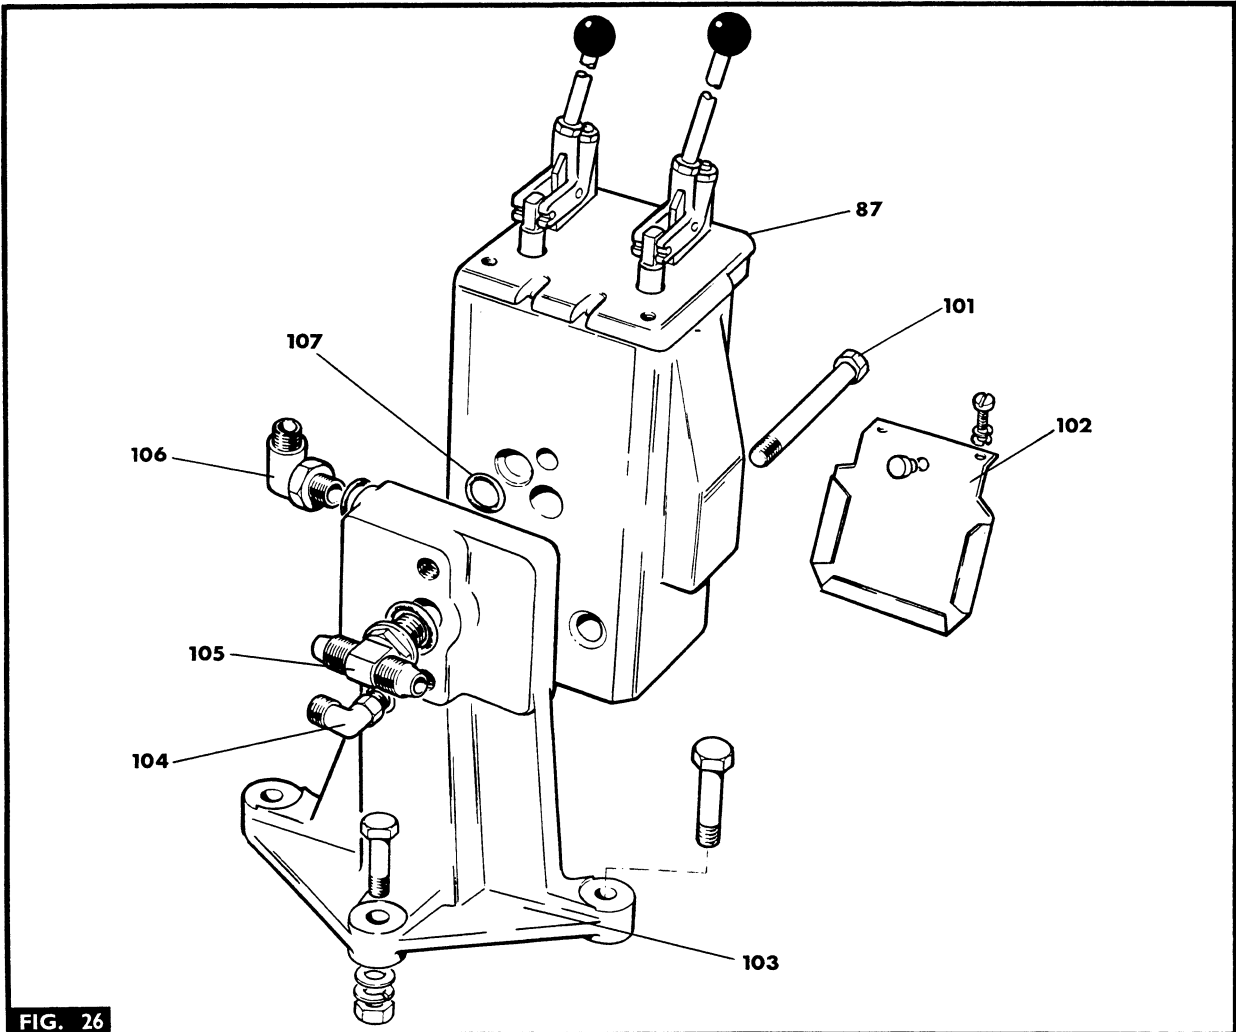
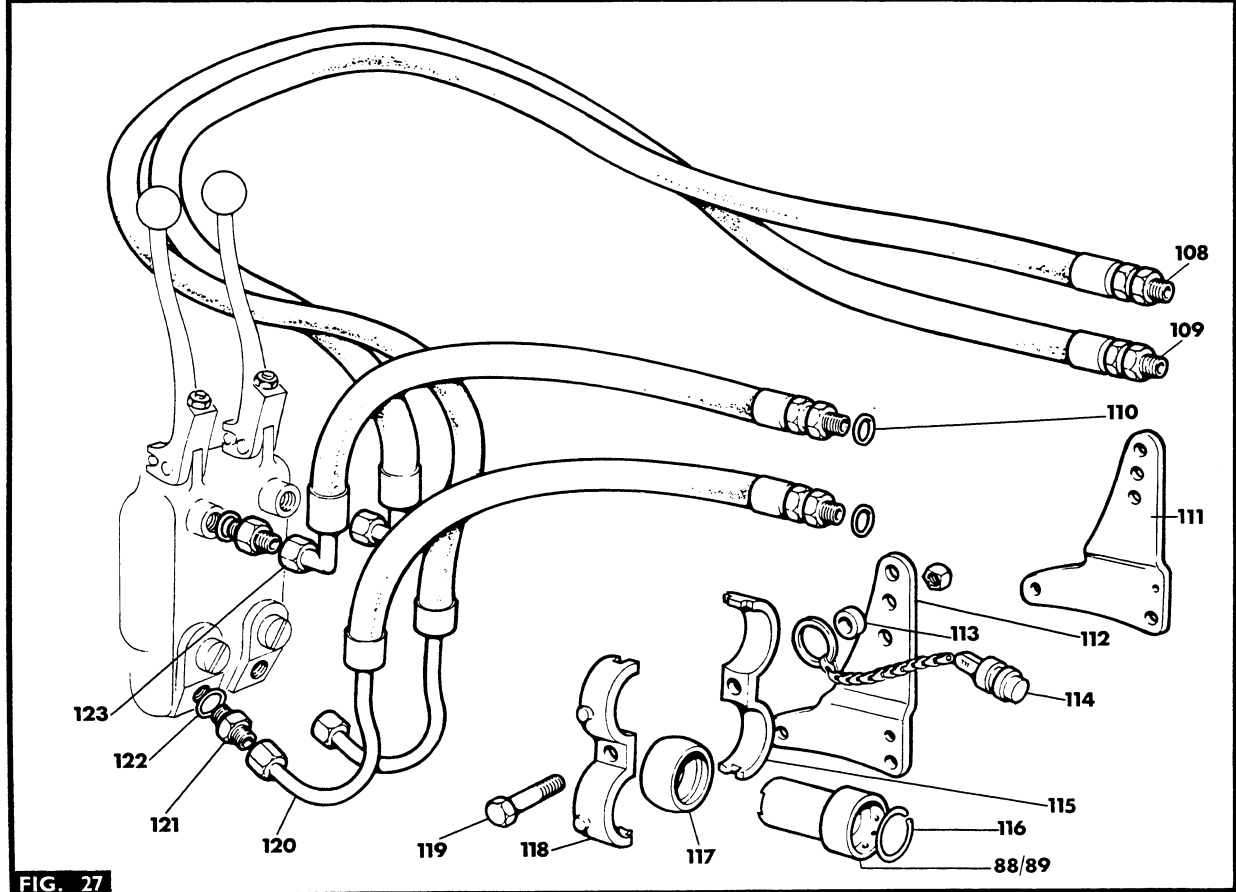
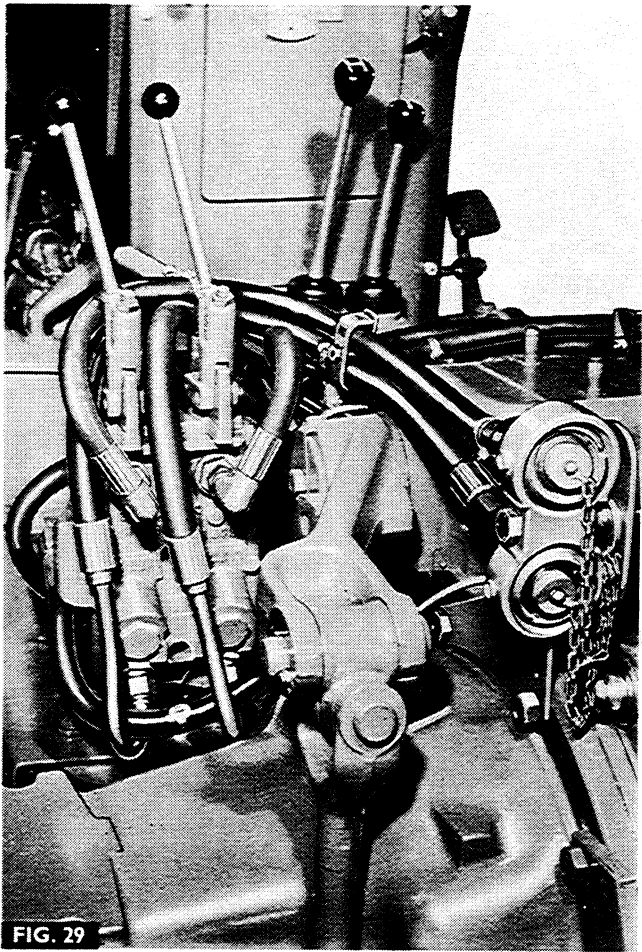
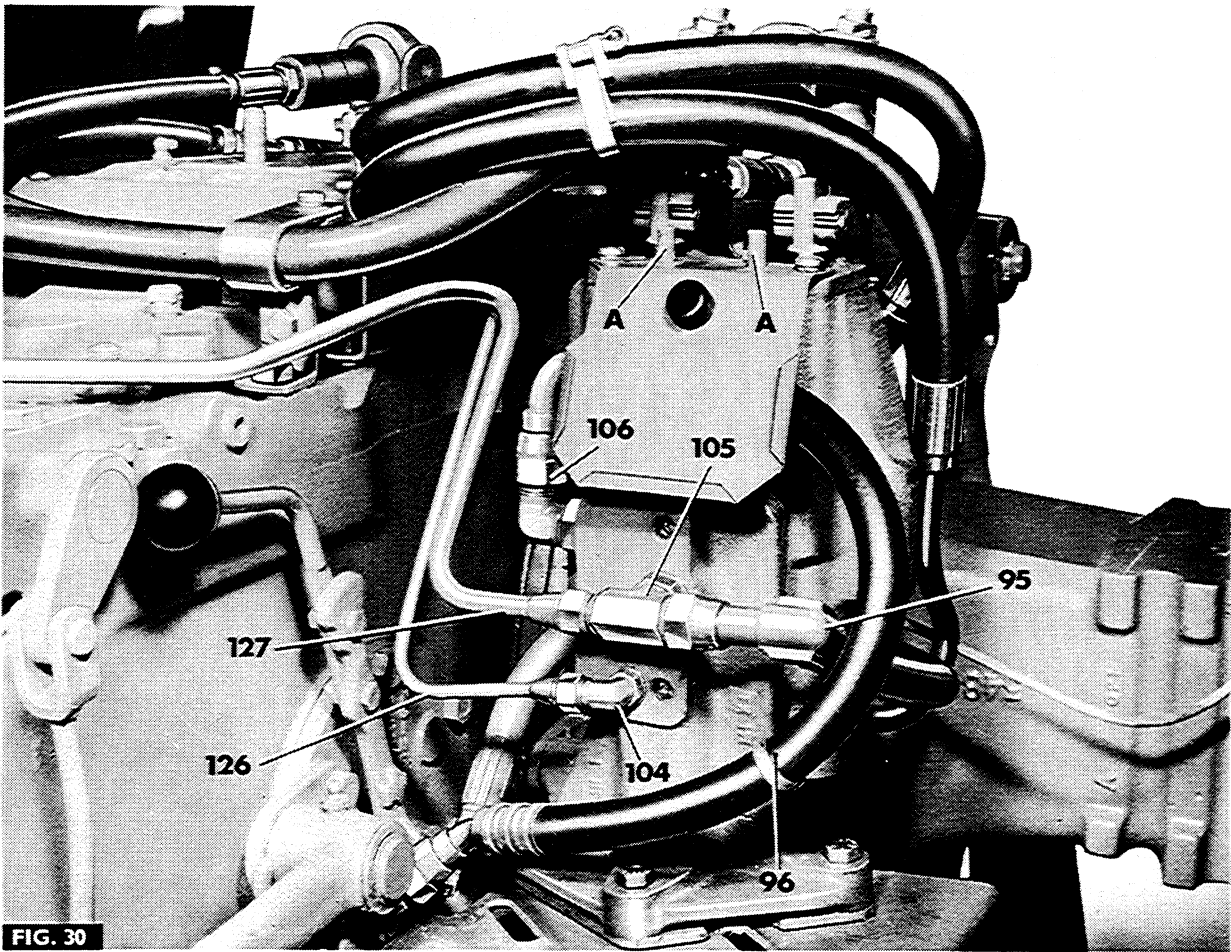

FIG. 26
FIG. 27
FIG. 29
FIG. 30
15. Fig. 26. Clean the front face of spool valve (87) and the mating face of the manifold (103), then fit an 'O' ring (107) to each of the three ports on the valve body. Place the body and manifold together and fit the two Allen screws (101) to secure them.
16. Fit and 'O' ring to the tee-piece (105), then screw the tee-piece into the upper hole on the front of the manifold.
17. Fit an 'O' ring to the smaller 90° elbow (104) then screw the elbow into the lower hole in the front of the manifold.
18. Fit an 'O' ring to the larger 90° elbow (106), then screw the elbow into the side of the manifold.
**NOTE – THE TEE-PIECE AND THE ELBOWS MUST, WHEN FULLY SCREWED IN, FACE IN THE DIRECTIONS SHOWN IN FIG. 26.**
19. Fit the plate (102), securing it with two screws, plus flat and spring washers. Press in the rubber grommet.
20. Figs. 27 and 28. Place the spool valve, front face downwards on a bench, then fit the four adapters (121) using 'O' rings (122) to the four tapped ports in the valve body.
21. Fit the four hoses as follows: Short hose with 90° connector (123) to 'DROP No. 1', Long hose with 90° connector to (108) to 'DROP No.2'; Short hose with curved connector (120) to 'LIFT No.1'; and the long hose with the curved connector (109) to 'LIFT No. 2'.
22. Slide a 'Pioneer' coupler (88/89) into each gimbal ring (117) and secure them with the snap rings (116).
23. Using an 'O' ring (110) for each, screw the 'Pioneer' couplers on to the hoses.
24. Fig. 29. Assemble the 'Pioneer' couplers in pairs, with two clamps (115 and 118), a spacer (113) and a pair of plugs and chains (114) per side. Slide the bolt (119), through the clamps and spacer, then locate the plug chain rings over the spacer, before bolting the assembly to the brackets (111 and 112), through the middle hole in the bracket.
**NOTE –THE BRACKETS (111 AND 112) ARE 'HANDED' (LEFT AND RIGHT) AND THE TWO SHORT HOSES MUST BE FITTED TO THE L.H. BRACKET (112). ALSO, THE HOSES WITH THE 90° CONNECTORS MUST BE PLACED IN THE UPPER CLAMP SOCKETS.**
28. Fig. 30. Fit the leak off pipe (126) to the union on the lift cover then connect it to the 90° elbow (104) on the front of the manifold.
29. Fit the feed pipe (127) connecting it to the union (54) on the combining valve and to the tee-piece (105) on the manifold.
30. Connect the feed pipe (95) (rear connector on side cover) to the tee-piece (105), as shown.
31. Connect the return pipe (96) to the 90° elbow (106) on the side of the manifold.
33. Fig. 29. Locate the 'Pioneer' coupler support brackets (111 and 112) on the studs on the trumpet housings, then refit the bolts and nuts.
34. Fig. 30. Fit the clamps to the components already fitted (98, 99 and 100) to secure the hoses to the lift cover.
35. Fig. 29. Fit the sealing plugs (114) to each of the 'Pioneer' couplers.
Fig. 30. To change from single acting, to double acting operation, screw the switch valve (A) fully in. To change to single-acting operation, screw the switch valve out five full turns.
This operation is almost identical to operation 7B-10-18 except that the feed pipe (95 Fig. 30) is not used, its connections being blocked off by a banjo bolt at the p.t.o. side cover and by a cap on the tee-piece (105).